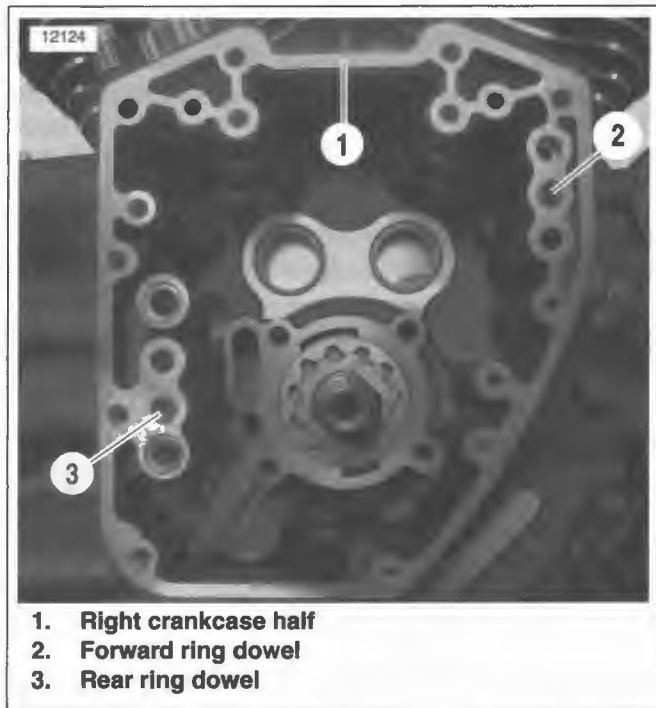

Figure 3-54. Ring Dowels
13. See Figure 3-54. Two ring dowels (2, 3) in crankcase flange locate cam support plate.